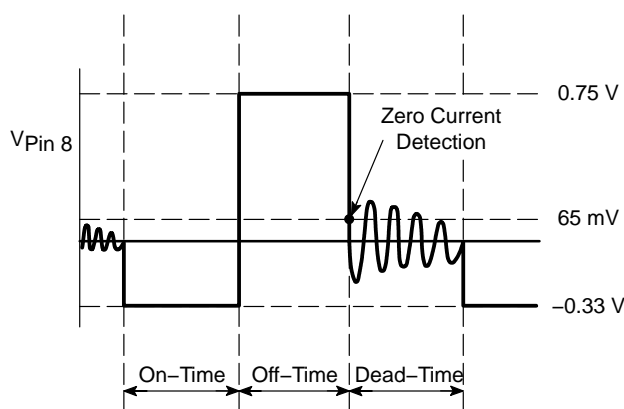

Figure 31. Demagnetization Detection
- equal to zero for the dead-time with generally a ringing (refer to Figure 31).